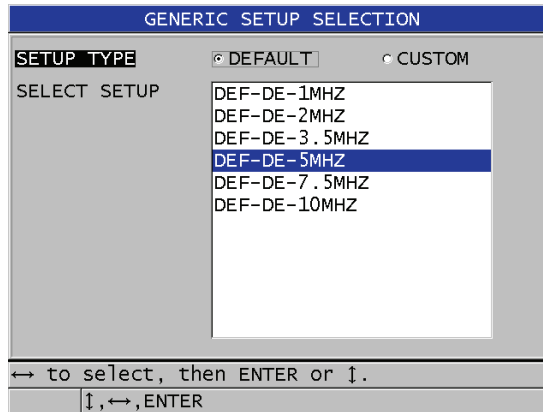

Figure 12-1 The GENERIC SETUP SELECTION screen
2. In the **GENERIC SETUP SELECTION** screen that appears (see Figure 12-1 on page 205):